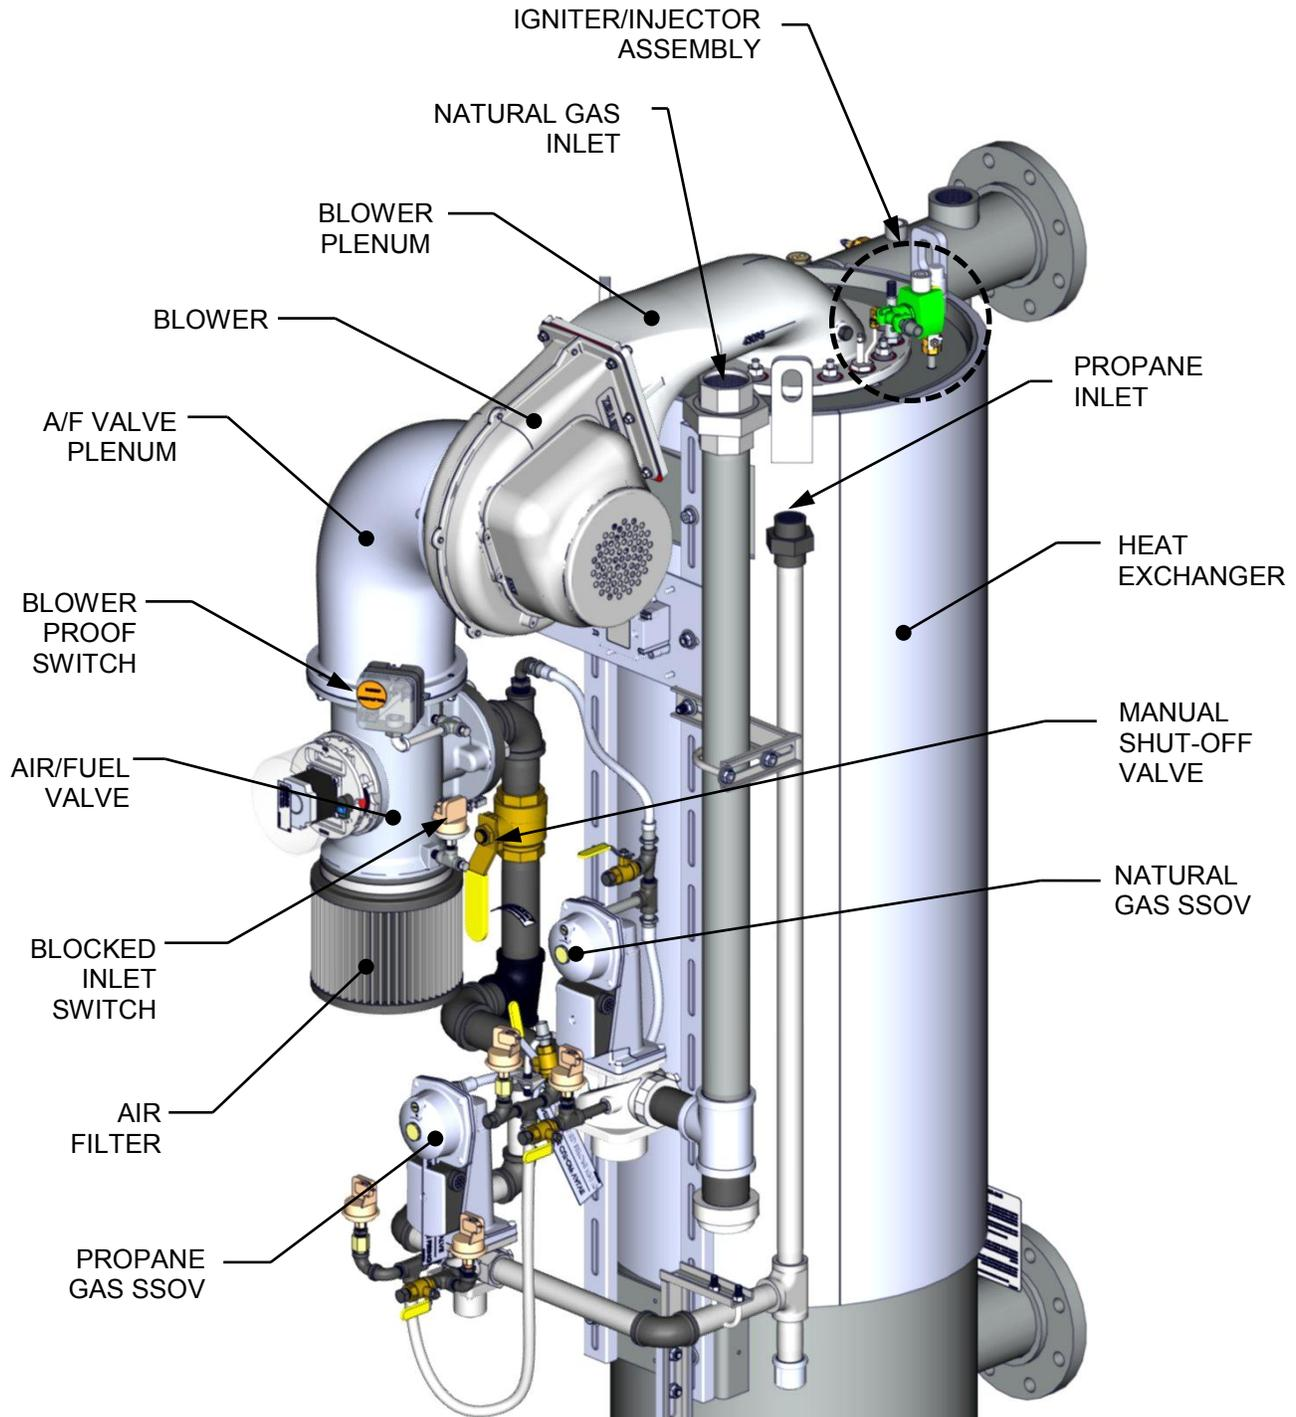

Figure 6-3: Bare Boiler – Partial View (BMK 1500DF/2000DF)
3. Close the manual gas shutoff valve located between the Safety Shut-Off Valve (SSOV) and the Air/Fuel Valve (see Figure 6-3).
8. Once flame is proven, close the manual gas valve located between the SSOV (Figure 6-3) and the Air/Fuel Valve.
These tests check the operation of the Blower Proof Switch and Blocked Inlet Switch shown in Figure 6-3.
2. For units that get combustion air from a Combustion Air Duct, remove that duct, located directly above the boiler (see Figure 6.3, above). For units that have an air filter in place of a Combustion Air Duct (not shown), remove the air filter.